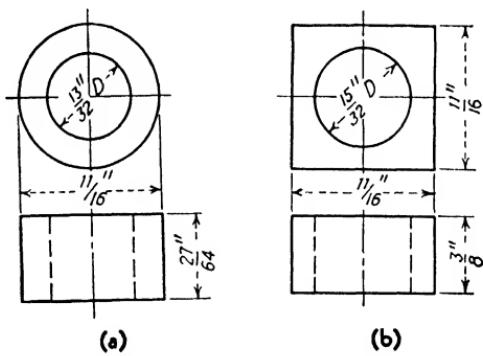

Fig. 93.
- 15.** Find the weight of 1,000 of each of the steel items shown in Fig. 93.